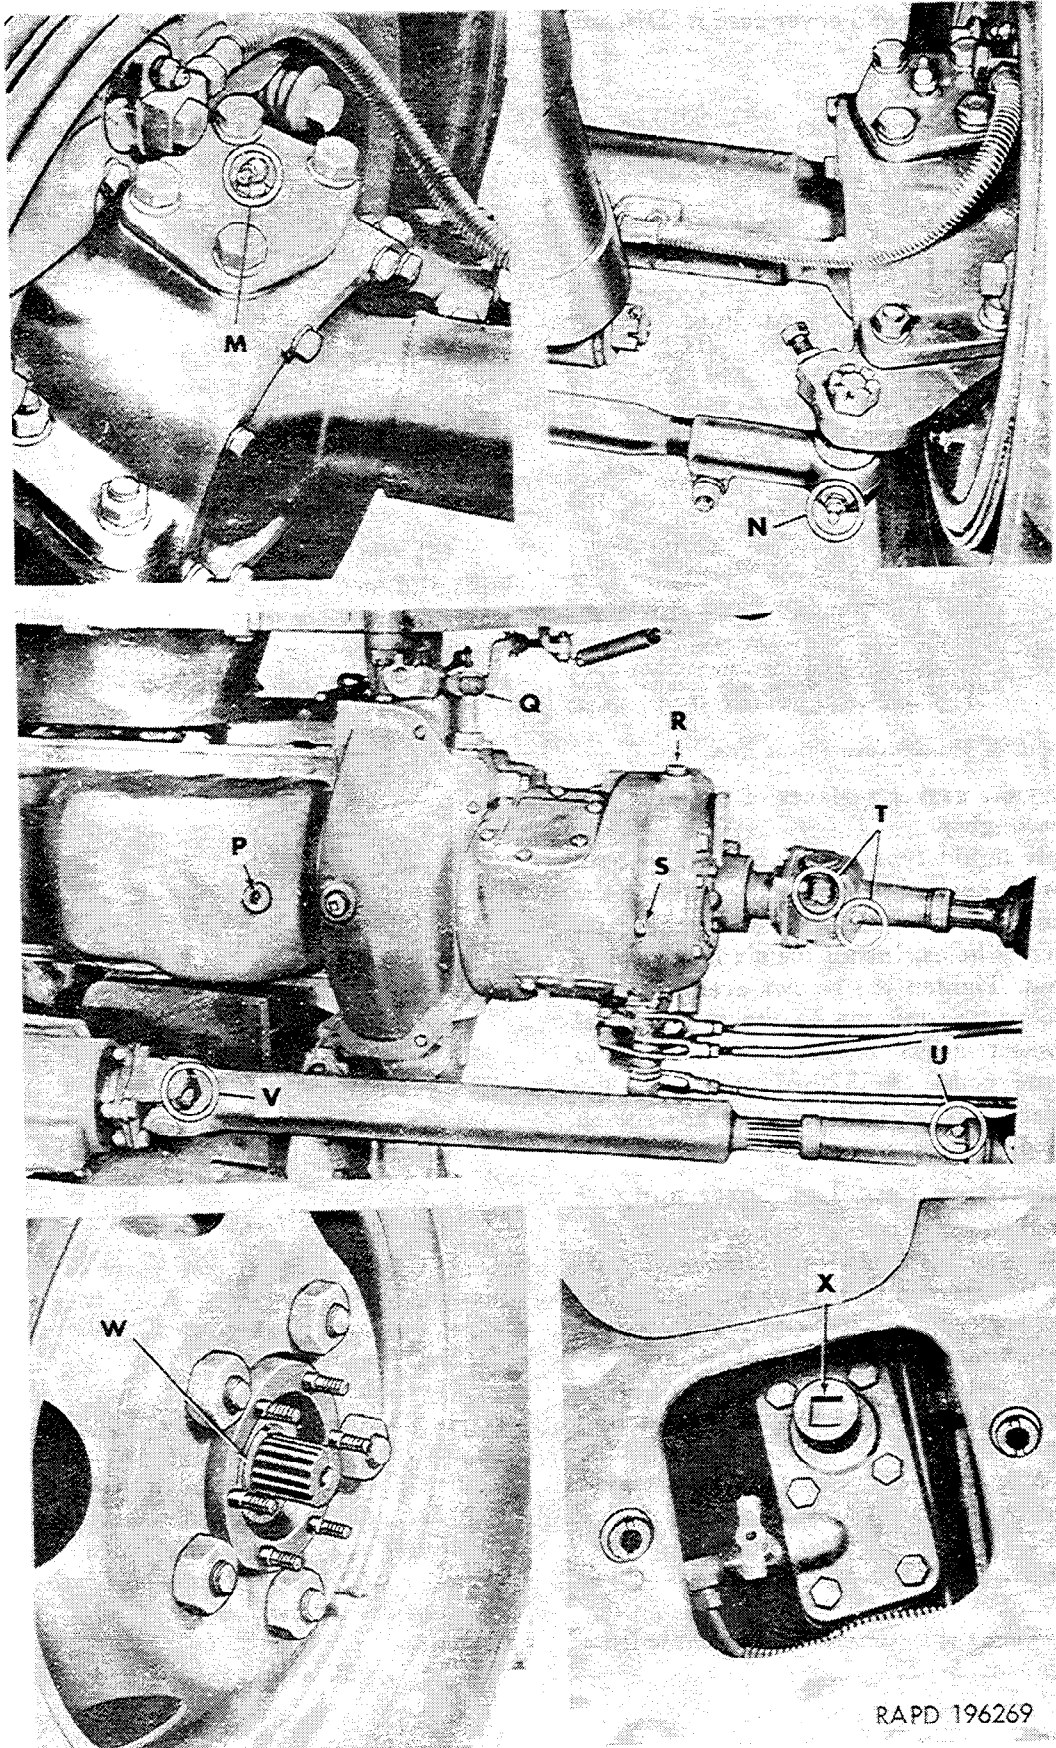

Figure 2-123. Localized lubrication points (M through X).
(1) Remove the drain plug (S, fig. 2-123) from the bottom of the transmission case and drain the lubricant into a clean container. Install the drain plug and tighten.